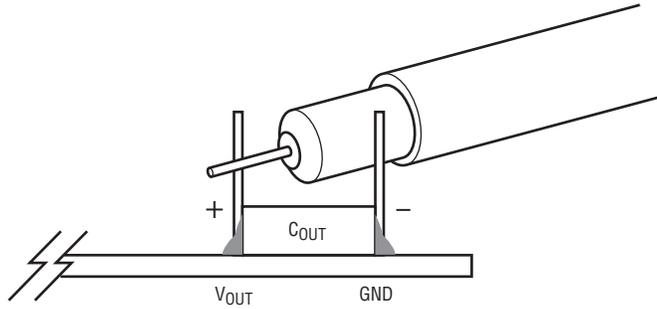

Figure 2. Measuring Output Voltage Ripple
**NOTE:** When measuring the output or input voltage ripple, do not use the long ground lead on the oscilloscope probe. See Figure 2 for the proper scope probe technique. Short, stiff leads need to be soldered to the (+) and (-) terminals of an output capacitor. The probe's ground ring needs to touch the (-) lead and the probe tip needs to touch the (+) lead.